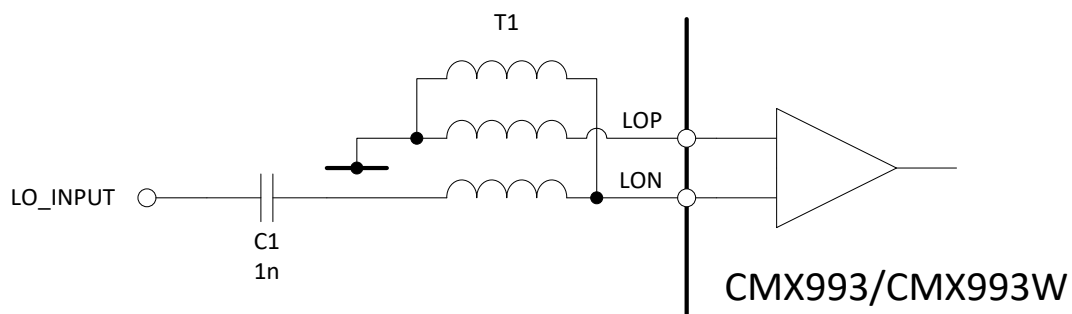

Figure 5 LO Input Configuration using a 1:1 Balun (60MHz to 2GHz)
1. The configuration of the 1:1 balun used at the LO input has to create a dc path to analogue GND for both LO inputs, LOP and LON as shown in Figure 5.